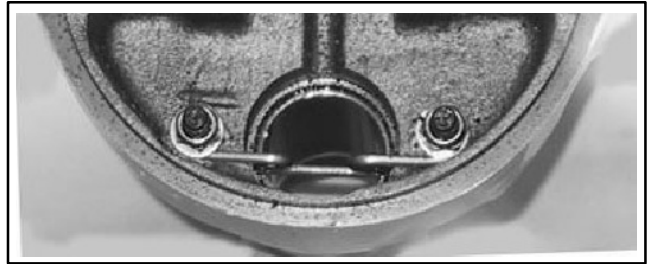

Figure 10-92 Retainer Spring In Cylinder Head
2. Put the retainer spring in the upper side of the head as shown in Figure 10-92.